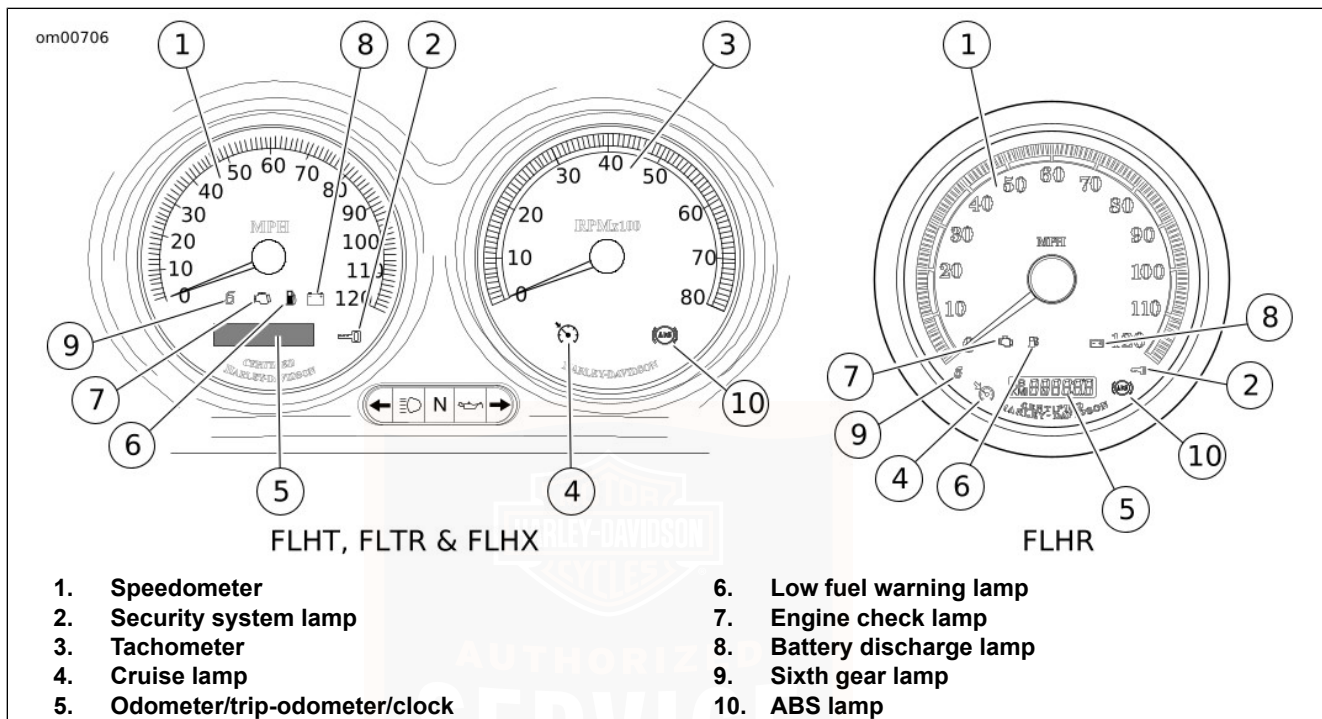

Figure 7. Indicator Lamps: Touring Models
See Figure 7. The speedometer registers miles per hour (U.S. models) or kilometers per hour (international models) of forward speed. The speedometer also provides the following selectable functions:
1. See Figure 7. Pressing the function switch with the ignition switch in any position will activate the odometer reading and time. Time and mileage/kilometers may be checked without unlocking ignition switch. Press and release function switch once to view odometer. Press and release switch again to display time.
2. See Figure 7. Press function switch until time (hour and minutes) is displayed. Press and hold the function switch for five seconds or until 12HR begins to blink in the speedometer display window. Release the button.
See Figure 7. The tachometer measures the engine speed in revolutions per minute (RPM).
See Figure 7. The engine check lamp is located near the lower left side of the speedometer (FLHT models) face or lower center of the speedometer (FLHR models) face. Its purpose is to indicate whether or not the engine/engine management system is operating normally. The engine lamp color is amber.
See Figure 7. The low fuel lamp is located in the speedometer face, lower center by check engine lamp. The low fuel lamp illuminates to indicate that you have approximately 3.8 L (1 USgal) of gasoline left in the tank. The low fuel lamp color is amber.
See Figure 7. Cruise control equipped models feature two additional indicator lamps.
See Figure 7. On ABS equipped models, the amber ABS indicator lamp begins to flash at key ON to indicate that the system is operational. It continues to flash until motorcycle speed exceeds 5 km/h (3 mph). Continuous illumination of the lamp will only occur when ABS detects that the system is malfunctioning. In the diagnostic mode, the lamp will also illuminate to indicate the presence of diagnostic trouble codes (DTCs). See a Harley-Davidson dealer for service.
1. See Figure 7. Turn the cruise control switch to the ON position. The orange icon on the cruise gauge face will light when activated.